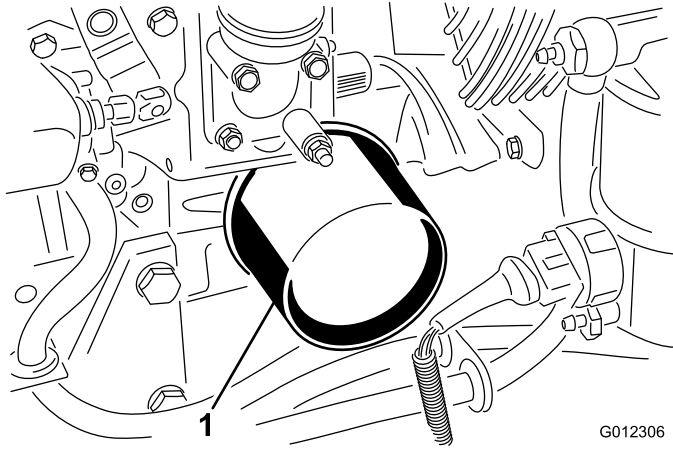

Figure 32
3. Remove the oil filter (Figure 32).